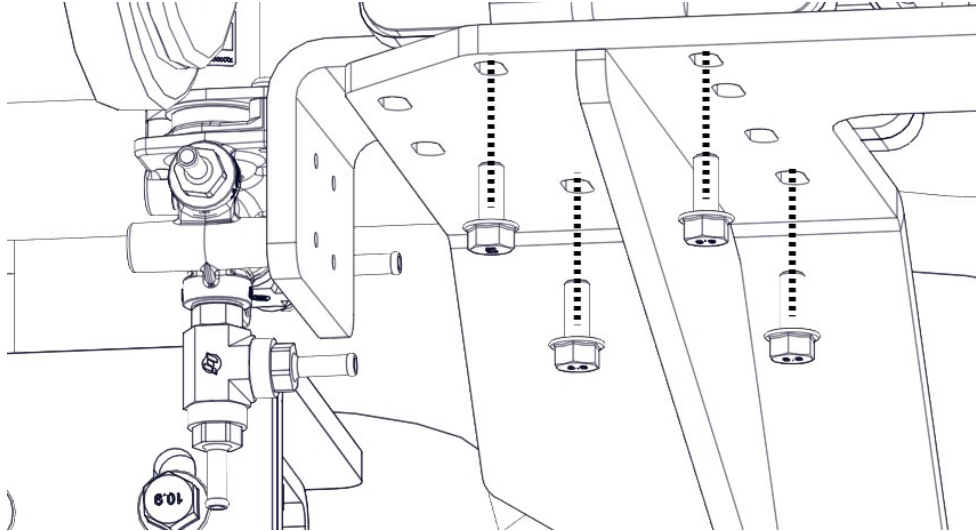

Figure 33.
3. Remove the four bolts (Figure 33) from the bottom of the nozzle bracket.
4. Insert and hand tighten the four bolts (Figure 33) from the bottom of the nozzle bracket.
7. Torque the four bolts (Figure 33) from the bottom of the nozzle bracket to 22 ft/lbs.